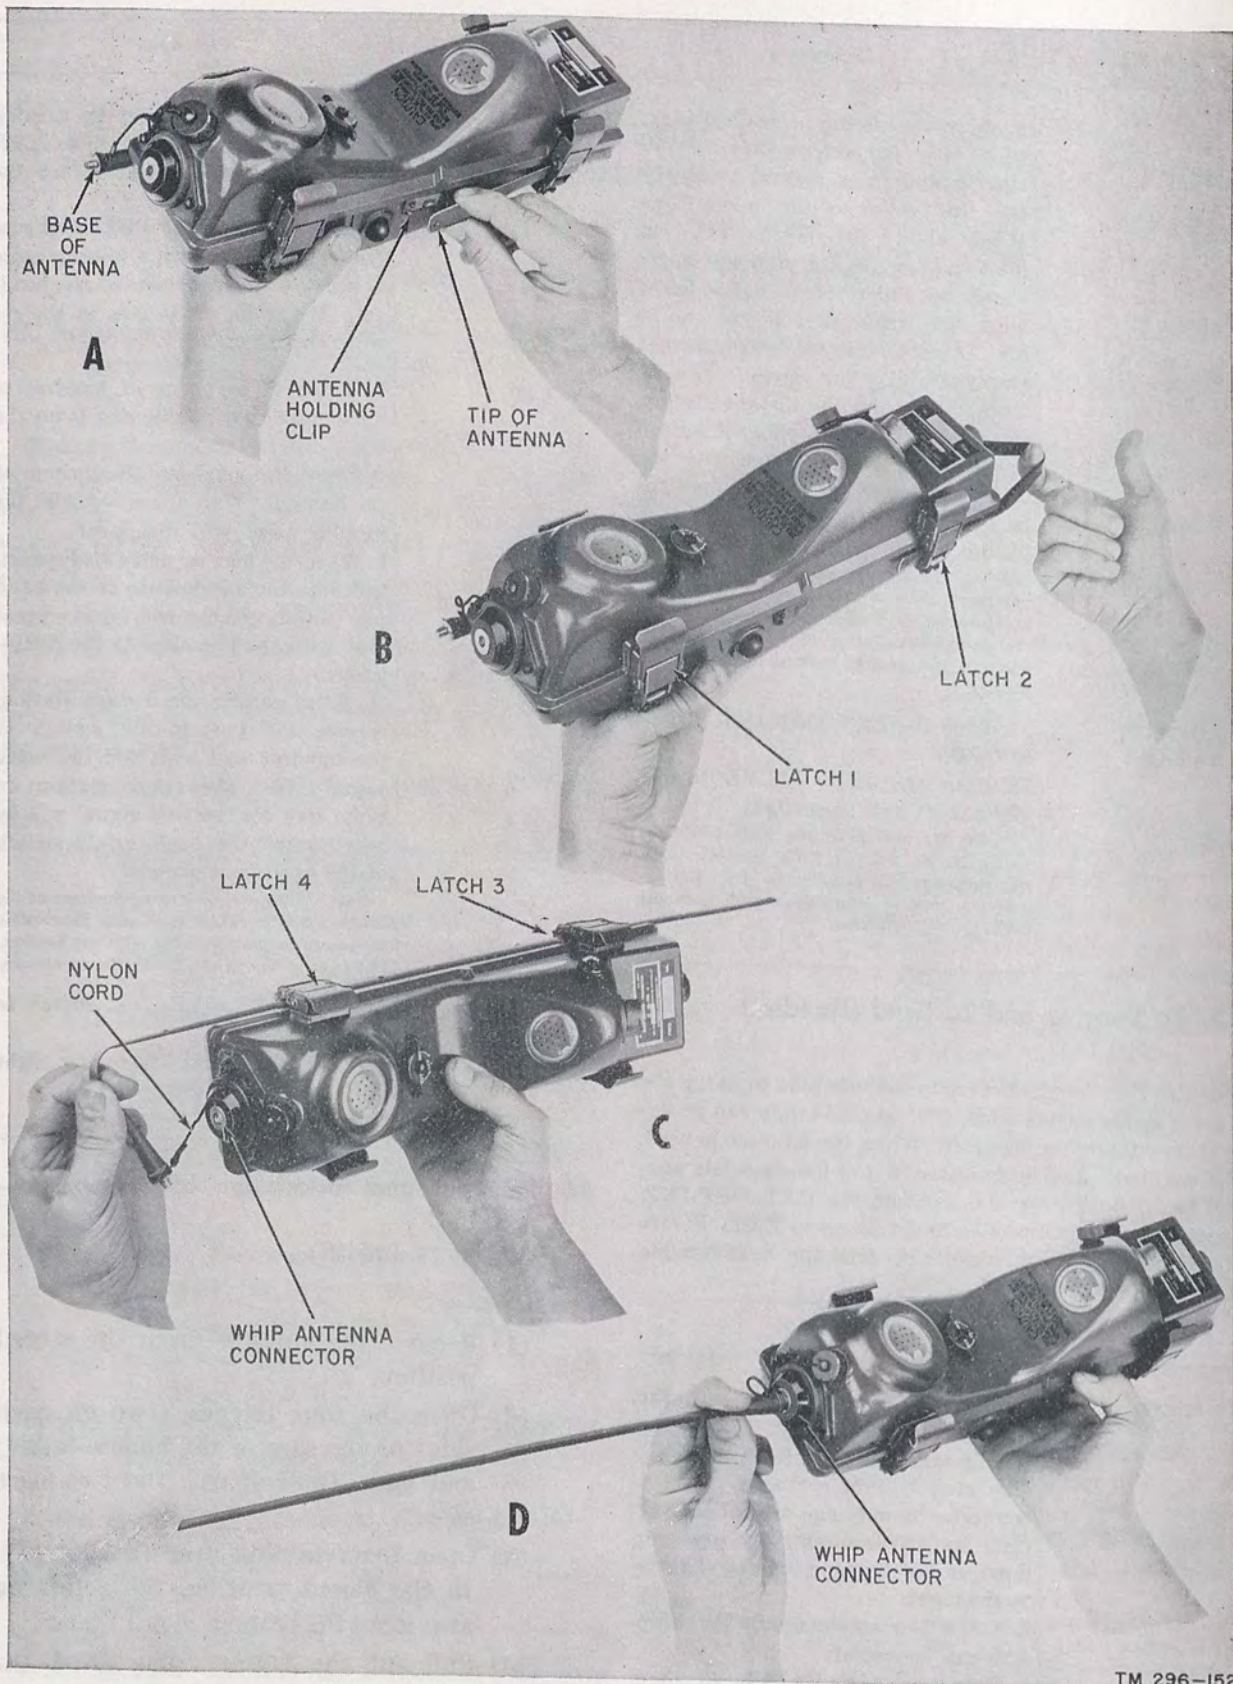

Figure 14. Radio Set AN/PRC-6, installation of antenna.
13. Installation of Whip Antenna from (and Returned to) Stored Position (fig. 14)
- (1) Remove the tip of the antenna from the antenna holding clip (A, fig. 14).
- (2) Place the finger under the whip antenna (B, fig. 14) and pull the tip of the antenna through latch 2.
- (3) Hold the antenna near the base of the antenna (C, fig. 14) and pull the tip of the antenna through latches 3 and 4 so that the antenna is free of the case.
- (4) Screw the base of the whip antenna into the whip antenna connector (D, fig. 14).